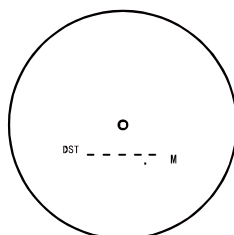

Figure 1
- Press the Power/measure button (1) to turn the device on or off. The rangefinder enters the distance measurement mode by default (Fig. 1).